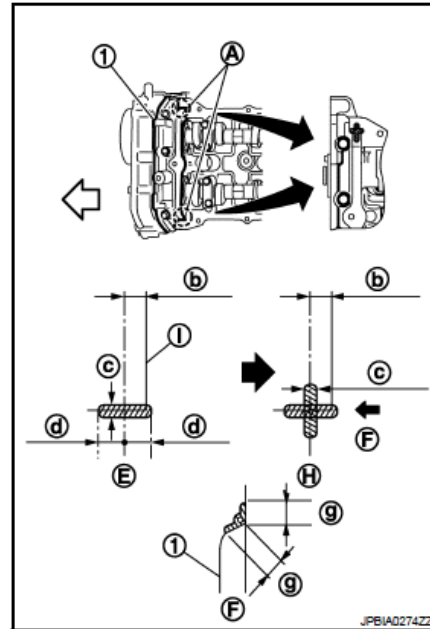

Fig. 72: Identifying End Surface Of Camshaft
- a. Refer to **Fig. 72** to apply liquid gasket to joint part of camshaft bracket (No. 1) (1) and cylinder head.
- b. Refer to **Fig. 72** to apply liquid gasket in 90 degrees to figure.